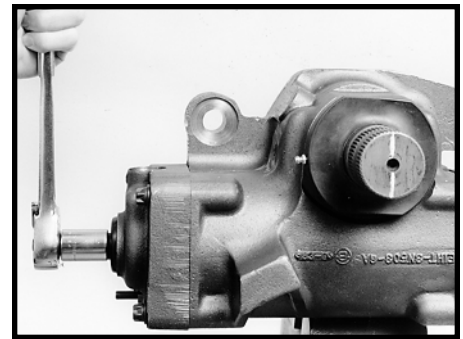

Figure 163
1. To center the steering gear, rotate worm shaft/input shaft (17) until the timing mark on the end of sector shaft (50) is perpendicular to the worm shaft/input shaft. SEE FIGURE 163. A 12 point 11/16 or 3/4 inch box end or socket required.